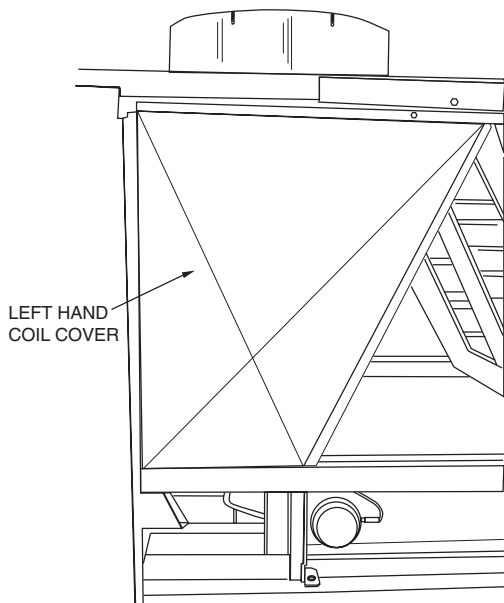

Fig. 2 — Installation of Left Hand Coil Cover
3. Using screws provided, install a left hand and right hand coil cover on each side of the chiller. See Fig. 2 and 3.